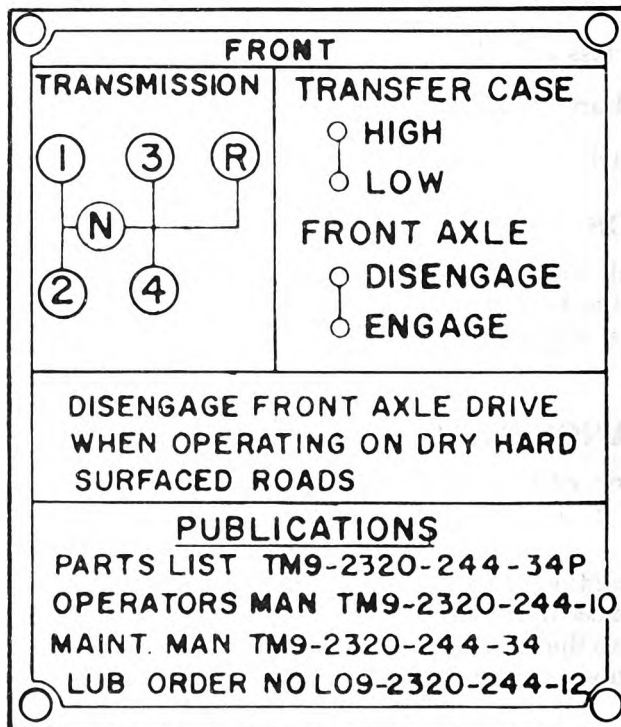

Figure 2. M715 Series.
3. **Shifting the M715 from 2-wheel drive to 4-wheel drive.** Let up on the accelerator if the vehicle is moving, depress the clutch, and shift the front axle drive lever to the rear (ENGAGE) position (figure 2).
4. **Shifting the M715 from 4-wheel drive high range to 4-wheel drive low range.** Slow the vehicle to a speed not exceeding 4 to 5 mph, depress the clutch, and move the auxiliary range lever to the rear (LOW) position (figure 2).
5. **Shifting the M715 from 4-wheel drive low range to 4-wheel drive high range.** Slow the vehicle to a speed not exceeding 4 to 5 mph, depress the clutch, and move the auxiliary range lever to the forward (HIGH) position (figure 2).
6. **Shifting the M715 from 4-wheel drive to 2-wheel drive.** Let up on the accelerator if the vehicle is moving, depress the clutch, and shift the front axle drive lever to the forward (HIGH) position. The auxiliary range lever must be in the forward (HIGH) position before the front axle drive can be disengaged (figure 2).